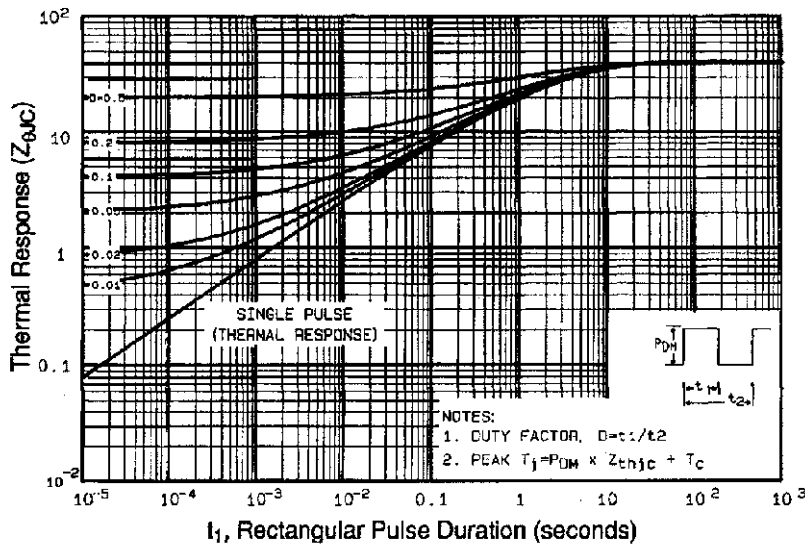

Fig 11. Maximum Effective Transient Thermal Impedance, Junction-to-Case
① Repetitive rating; pulse width limited by max. junction temperature. (See fig. 11)
② $V_{DD}=25V$, starting $T_J = 25^\circ C$, $L = 16mH$